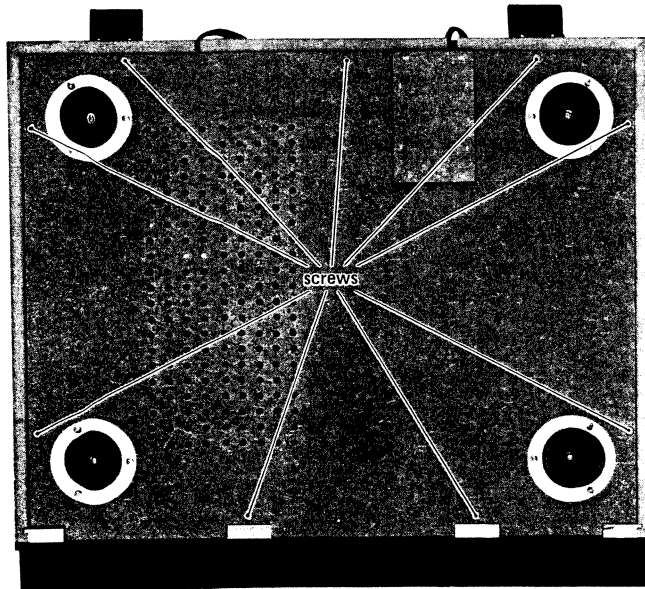

Fig. 3-5
4. Remove the nine screws from the bottom cover as shown in Fig. 3-5.